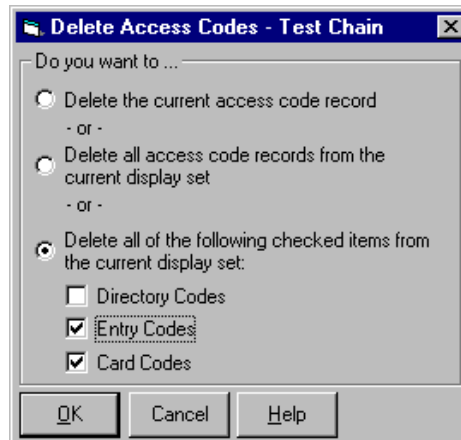

Figure 38: Delete Access Codes Window
- 1 At the Unit Definition window, under the **Access Codes** menu option, select **Delete**. *You will arrive at the Delete Access Codes window (Figure 38).*